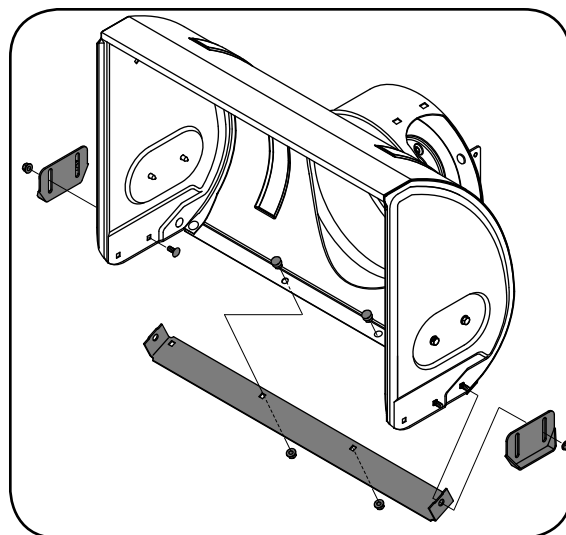

Figure 18A - Standard Skid Shoe
2. Reassemble new skid shoes with the four carriage bolts (two on each side) and hex flange nuts. Refer to Figures 18A or 18B.